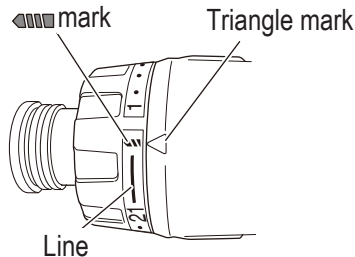

Fig. 14
- **Do not use with the clutch dial numeral between "21" and the black line at the middle of the drill mark. Doing so may cause damage (Fig. 14).**